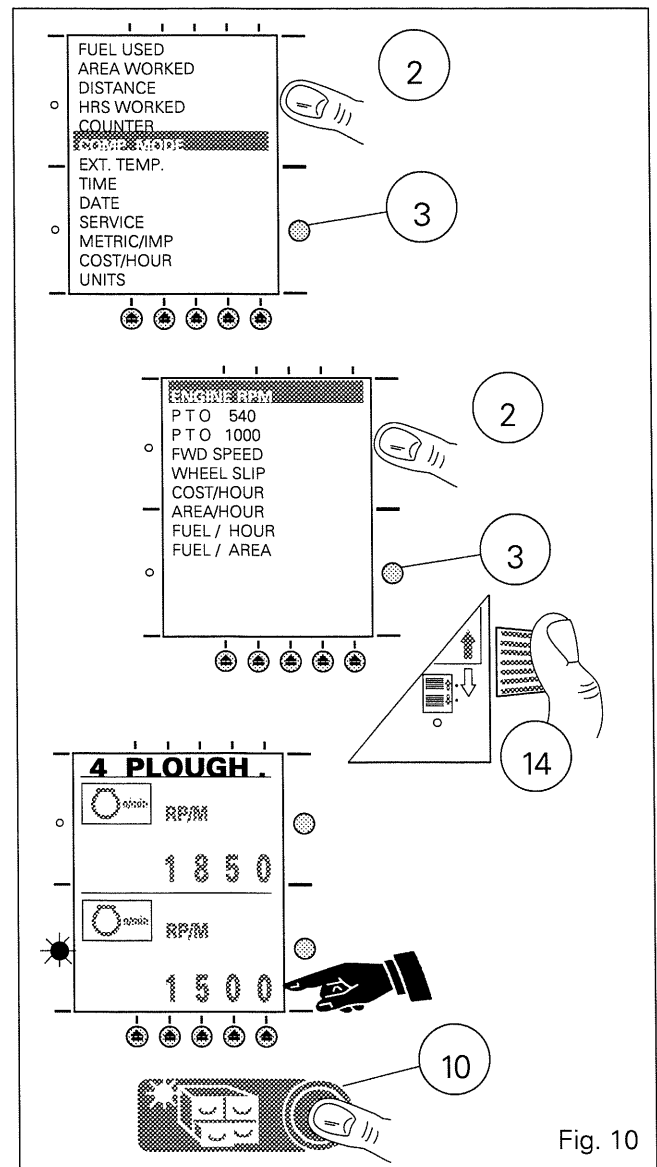

Fig. 10
**Comparative mode (fig. 10)**